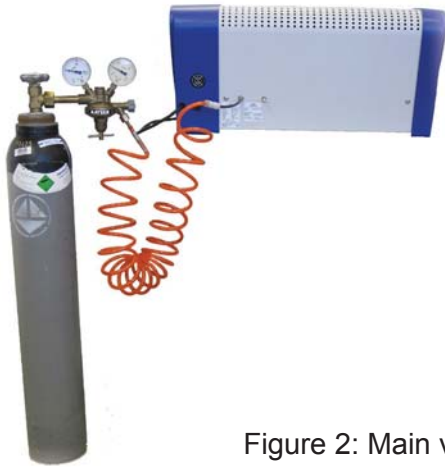

Figure 2: Main valve
2. Open the main valve on the tank regulator or pipeline (figure 2).